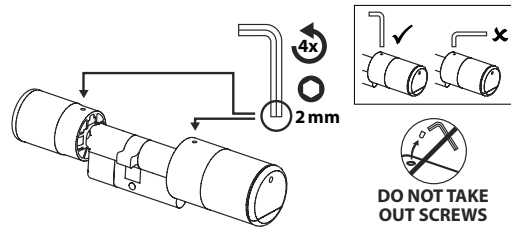

Fig. 2
- 2 The loosening and fixing of the outer and inner knob is achieved by means of an integrated grub screw in the rotary knob. Loosen the two grub screws in the two knobs with the enclosed hexagonal spanner (Fig. 2).